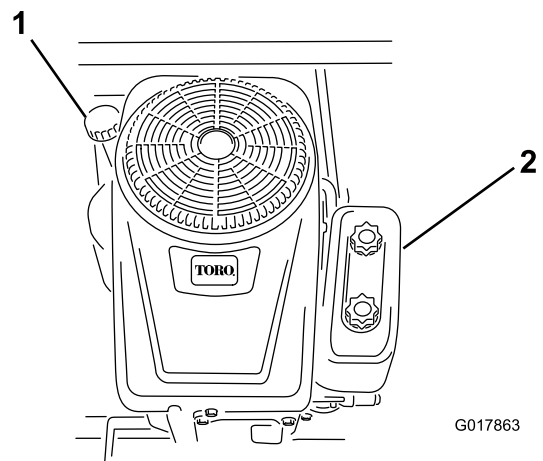

Figure 29
4. Clean around the oil dipstick (Figure 29) so that dirt cannot fall into the fill hole and damage the engine.
6. Slowly pour about 80% of the specified amount of oil into the fill hole (Figure 29). Check the oil level; refer to the Checking the Oil Level procedure.